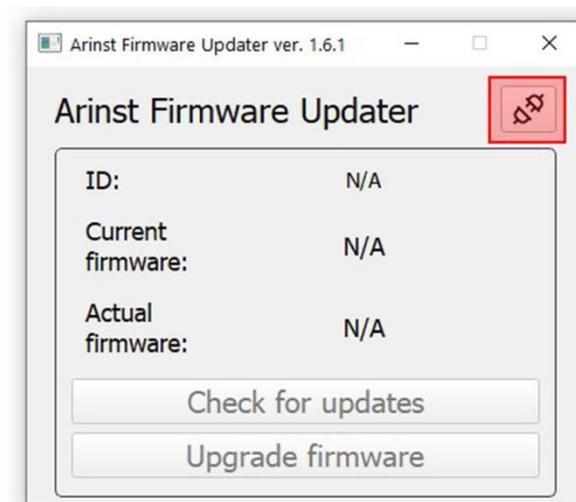

Figure A2.1 – Connecting the device to a PC
2.3. Click the button⁸ to connect the device to your PC (Figure A2.1).